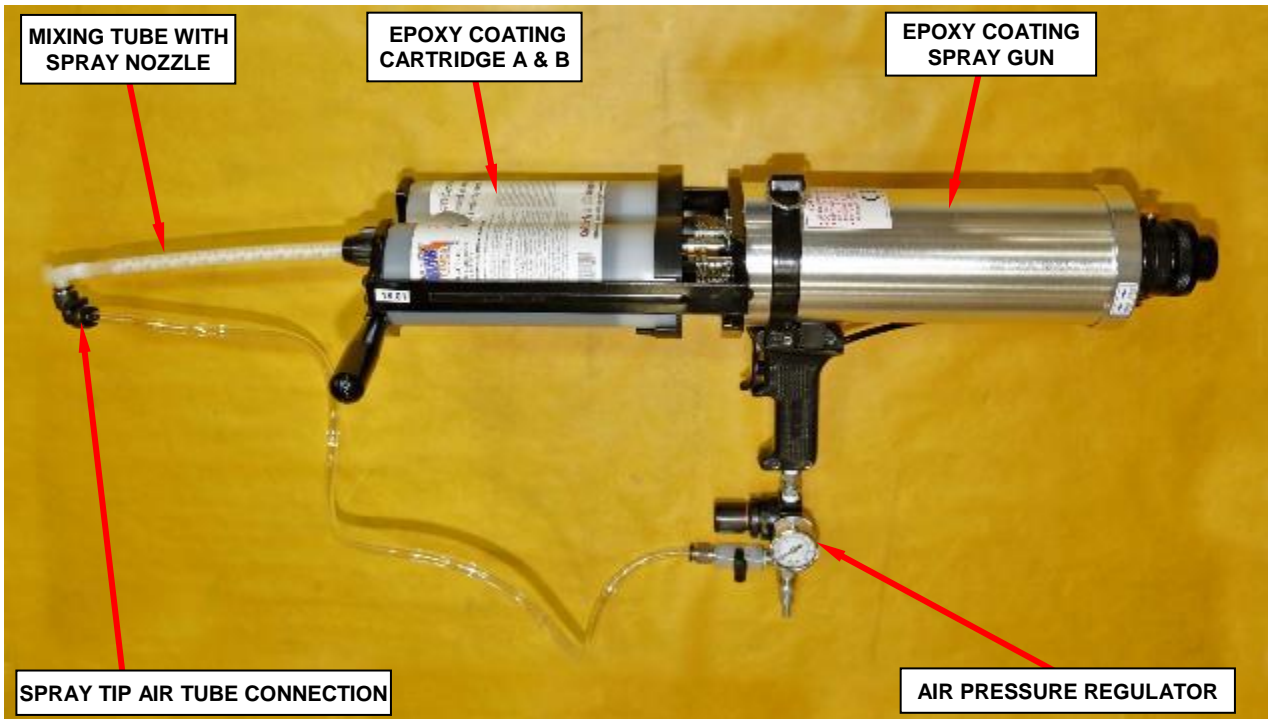

Figure 8 – Epoxy Coating Spray Gun
3. Assemble the epoxy coating spray gun per the manufacturer's directions (Figure 8).